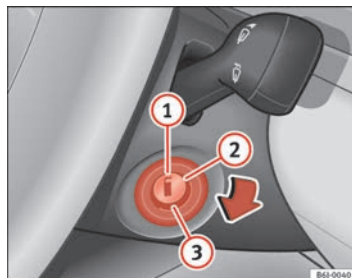

Fig. 96 Ignition key positions
In this position ⇒ page 130, fig. 96 the ignition and the engine are OFF and the steering may get locked.
- Turn the ignition key to position \Rightarrow page 130, fig. 96 ②. The indicator lamp  will light for engine pre-heating.
- When the warning lamp turns off, turn the key to position ③ to start the engine. Do not press the accelerator.
- Turn the ignition key to position \Rightarrow page 130, fig. 96 ①.